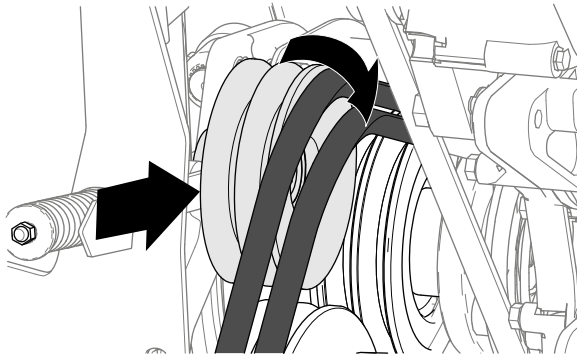

**Figure 92**
7. Move the anti-rotation tube rearward and remove it from the machine (Figure 92).
2. Align the pin of the anti-rotation tube with the hole in the PTO-clutch plate; refer to Figure 92 in Removing the PTO Belts (page 65).